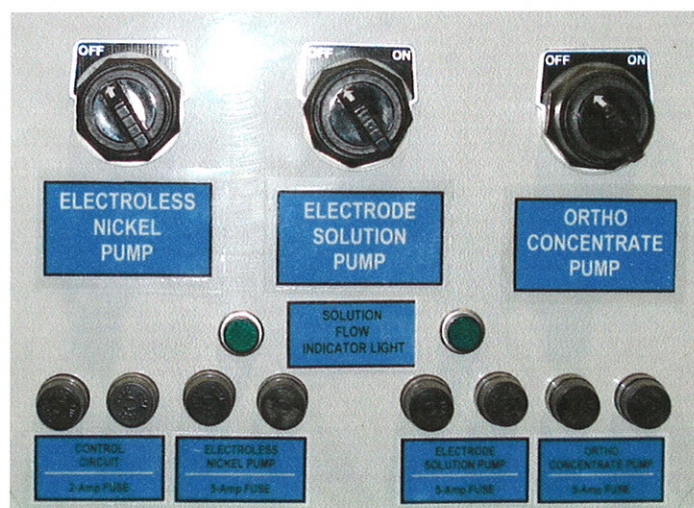

Figure 6. Pump Switches
7. Turn on the 3 switches for the pumps (figure 6).
- b. Turn off the 3 switches for the pumps (figure 6).